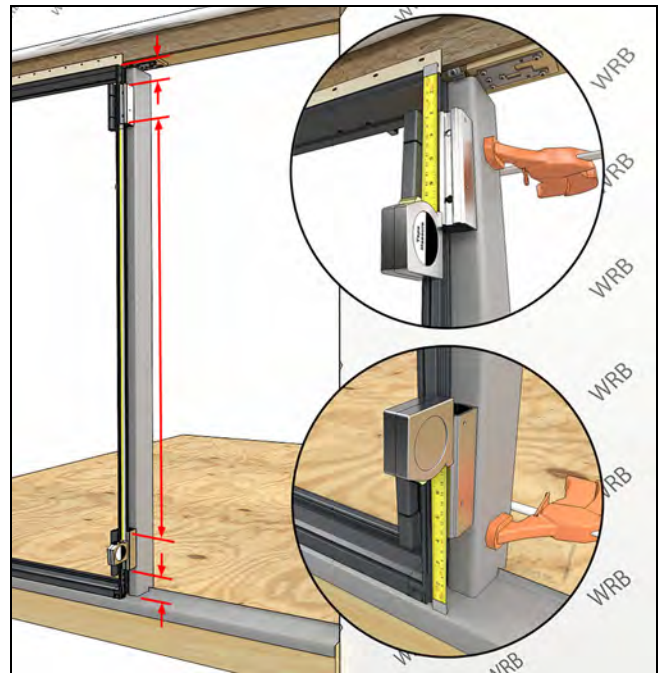

Figure 256
3. Measure and cut the vinyl mull filler to length to fit between the aluminum mull fillers (within 1/8"). Additionally, cut blocks to fit at the top and bottom of the aluminum mull fillers (minus 3/8"). See Figure 256.